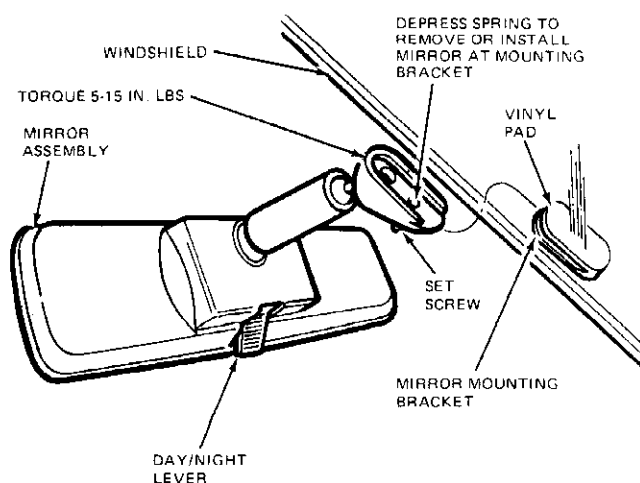

FIG. 1 Inside Rear View Mirror Installation
1. Loosen the mirror assembly-to-mounting bracket set screw (Fig. 1).